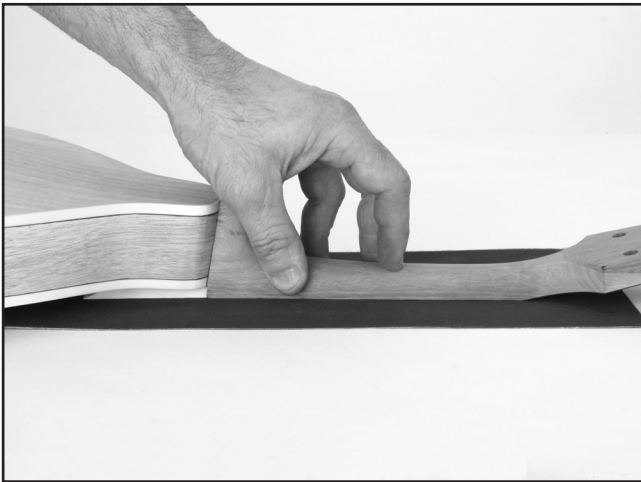

Figure 8. Flattening the neck.
- If there are gaps between the surface and the neck, place sandpaper, grit side up, on the flat surface and rub the neck on the sandpaper as shown in **Figure 8** until the neck and fretboard extender are flat.